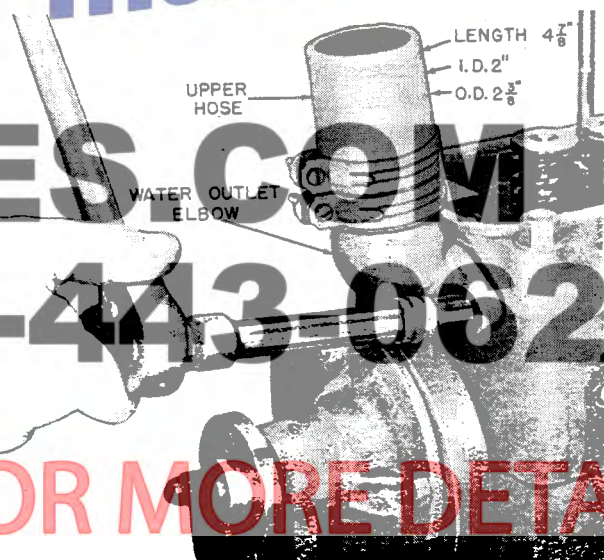

Figure 9 - Removing Water Outlet Elbow
- Remove water outlet elbow with hose and thermostat as a unit, see Figure 9. For further servicing, see Figure 74.